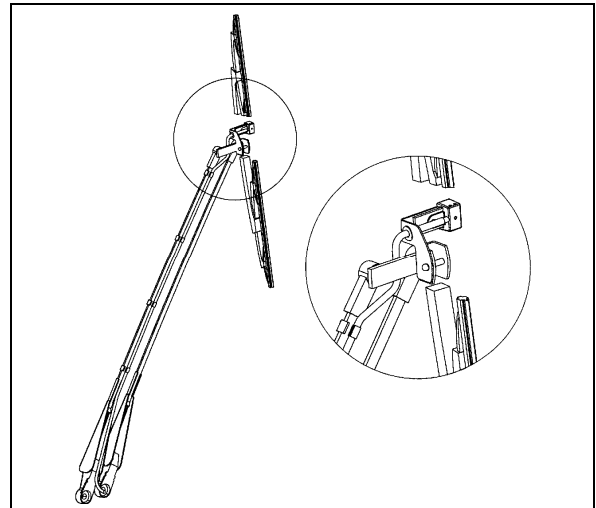

FIGURE 37: WINDSHIELD WIPER (DRIVER SIDE) 23328
1. Reinstall the wiper arms and position as shown in figure 37. Before positioning the wipers at their final position, tighten the nuts to 9 Ft-lbs (12 Nm) at first.